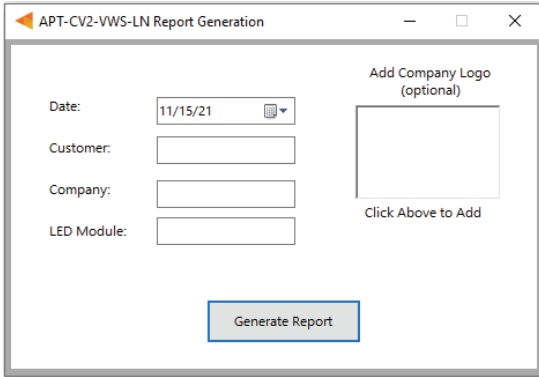

Figure 15: Report Generation window
- 1 Select **File > Generate Report**, or press **Ctrl+R**, to open the Report Generation Window (shown in Figure 15).